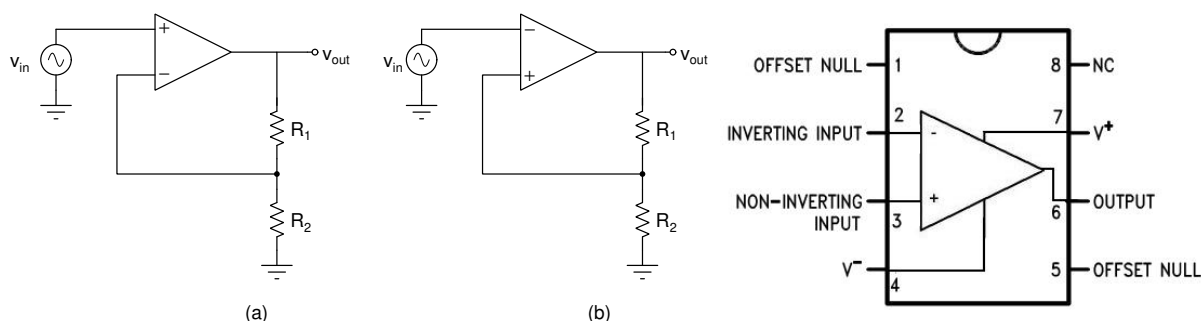

Figure 27
Consider the feedback configurations shown in Fig. 27. Take $R_1 = R_2 = 10\text{ k}\Omega$, supply voltages $= \pm 12\text{ V}$.
- (a) Identify the type of feedback in Figures 27(a) and (b).
- (b) Plot VTC (v_{out} vs v_{in}) for the circuits shown in Figures 27(a) and (b). Vary v_{in} from $-V_{DD}$ to $+V_{DD}$ (a sine wave with amplitude V_{DD} , low frequency say 100 Hz) and plot v_{out} , use acquire mode. With the equipments available in lab you can choose supply voltages $= \pm 8\text{ V}$ and $v_{in_{pp}} = \pm 12\text{ V}$ to clearly see the transitions on the VTC.